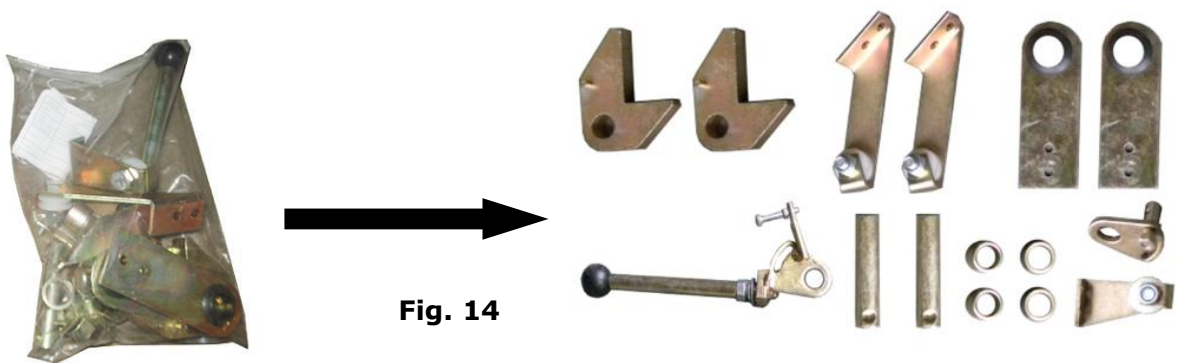

Fig. 14
7. Check the parts of the parts bag 2 according to parts bag list (See Fig. 14).